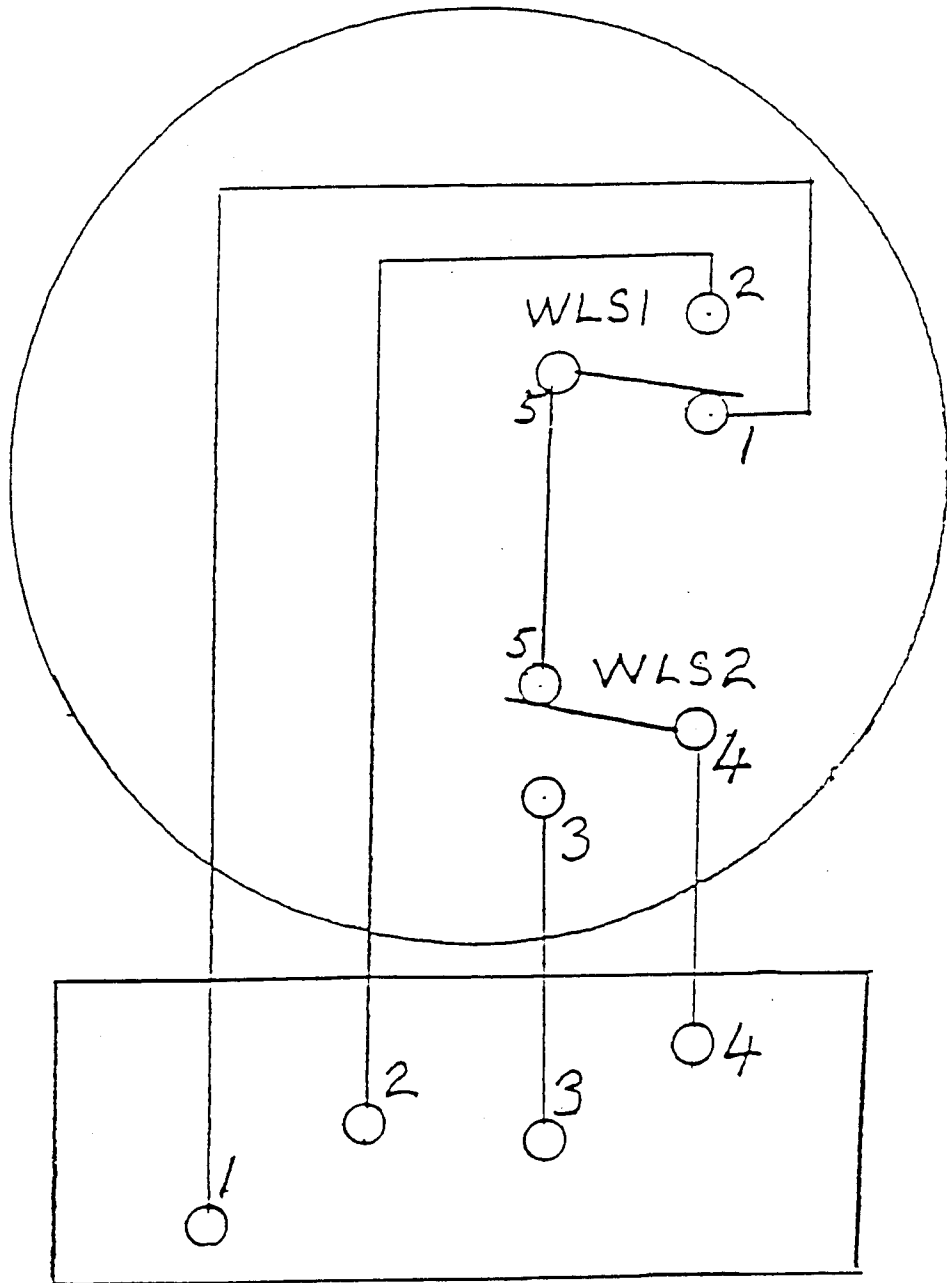

Figure 6. Internal Wiring - M32 Units
- 1.1 Connect the wiring in accordance with Figure 6, ensuring that the following conditions exist:-